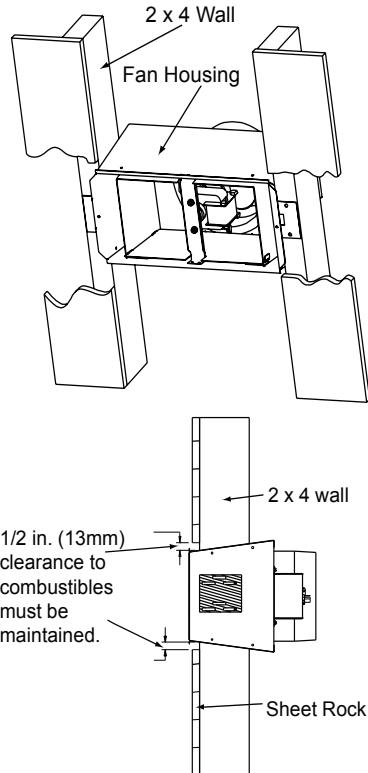

Figure 3.16
- Determine the location for the air register and fan housing assembly. Cut a 7-5/8 in. x 13-5/8 in. (143 mm x 346 mm) hole between framing members (wall studs or floor joists). The brackets can be rotated 180° and mounted to the back side of the 2 x 4 if necessary. See Figure 3.16.